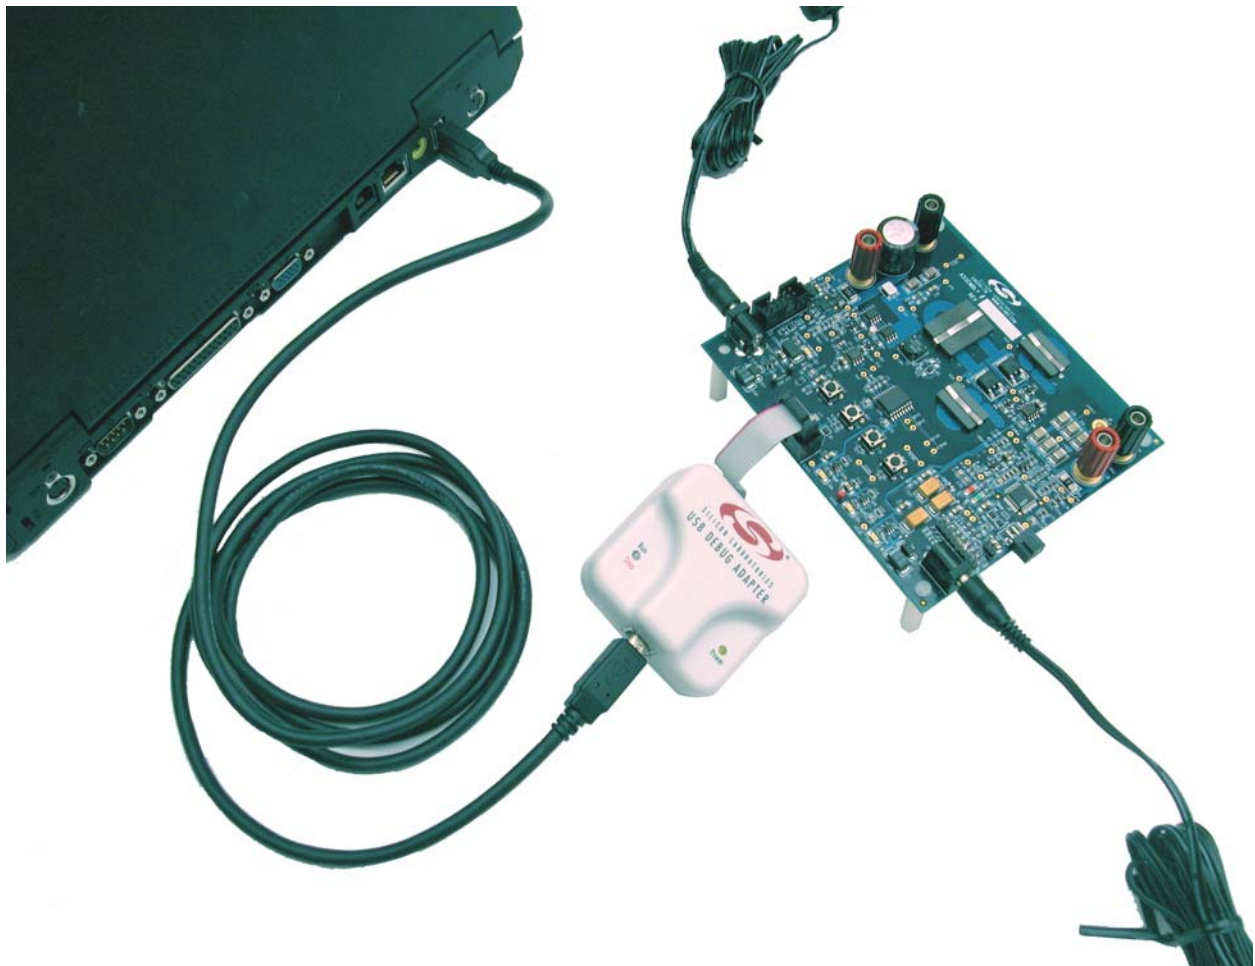

Figure 3. Overall View of the Debug Connection
2. Connect one of the 9 V, 1.5 A universal power supplies (supplied with the kit) to J6. Connect the other 9 V, 1.5 A universal power supply to J5 as shown in Figure 3. These supplies provide bias for the Si825x, driver ICs, and the C8051F300.
3. Connect the USB Debug Adaptor's ribbon cable to the Si8250 Target Board at J10 as shown in Figure 3.